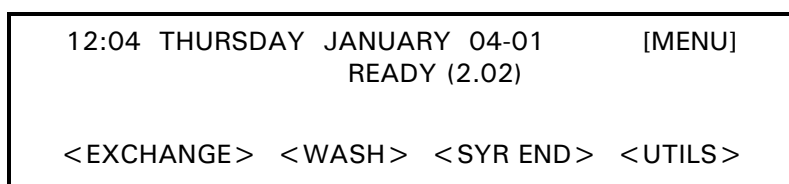

FIGURE 2-7. The Ready Menu
- Power up the system. The display will indicate that the self-test and initialization have been executed. After completion of this procedure, the screen shown in FIGURE 2-7 will be presented.